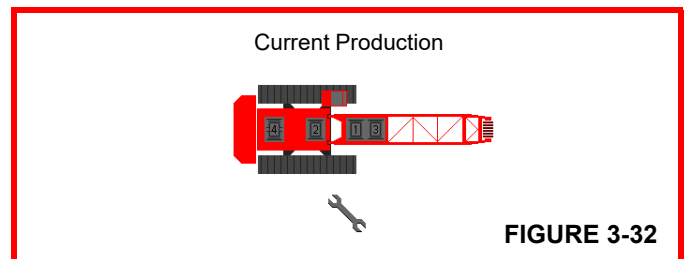

FIGURE 3-32
5. Scroll to and enter the setup screen (Figure 3-32).